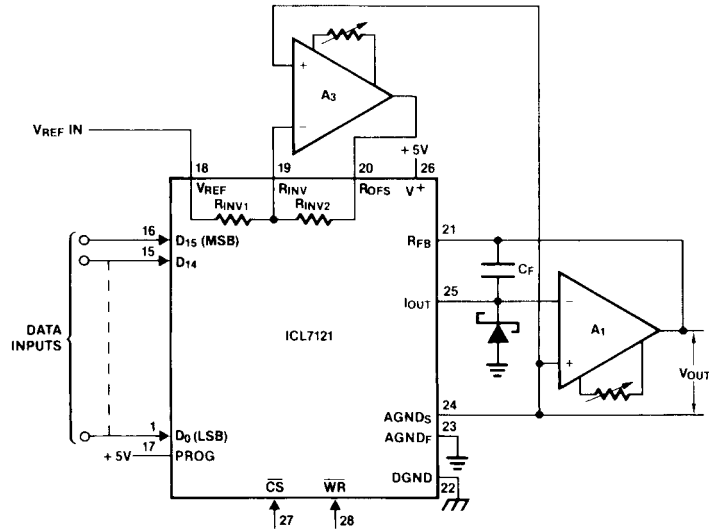

FIGURE 1. BIPOLAR OPERATION, FOUR-QUADRANT
- Refer to Figure 1. Measured at output amplifier A1 (A1 having zero offset). $V_{REF} = +5V$. Adjustable to zero with external potentiometer.
The circuit diagram for the normal configuration of the ICL7121 is shown in Figure 1. The positive and negative reference voltages allow full four-quadrant multiplication. Amplifier A_3 , together with the internal resistors R_{INV1} and R_{INV2} , forms a simple voltage inverter circuit to generate $-V_{REF}$ for the R_{OFS} offset input pin. This will give the nominal “digital input code/analog output value” relationship of Table 1. Note that the value of R_{FB} is equal to $2R$ so full scale range is $2V_{REF}$.